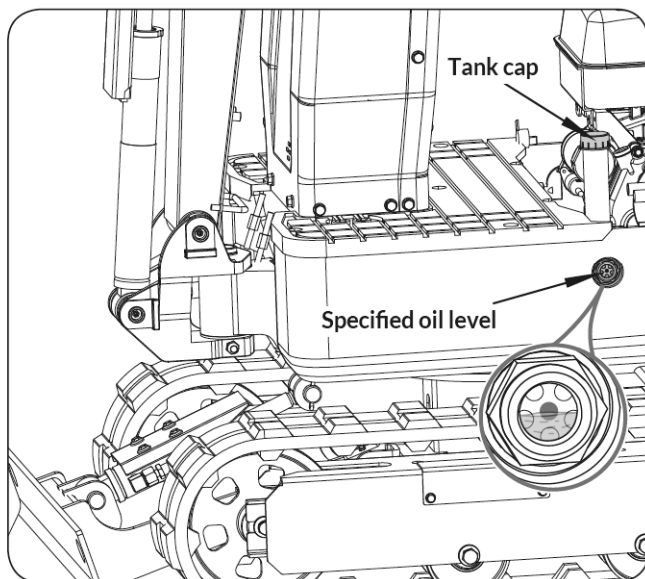

Figure 80
4. Should the oil level be too low, add enough oil through the oil port before starting the engine. This step is important for the protection of the hydraulic system. (See **Figure 80**)